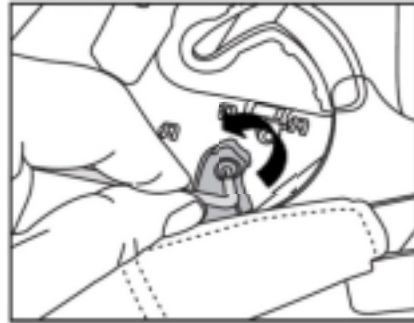

Fig. 1
- (1) Extract the inner module (liner, suspension, headband) by removing the attachment screws (see Fig. 1).